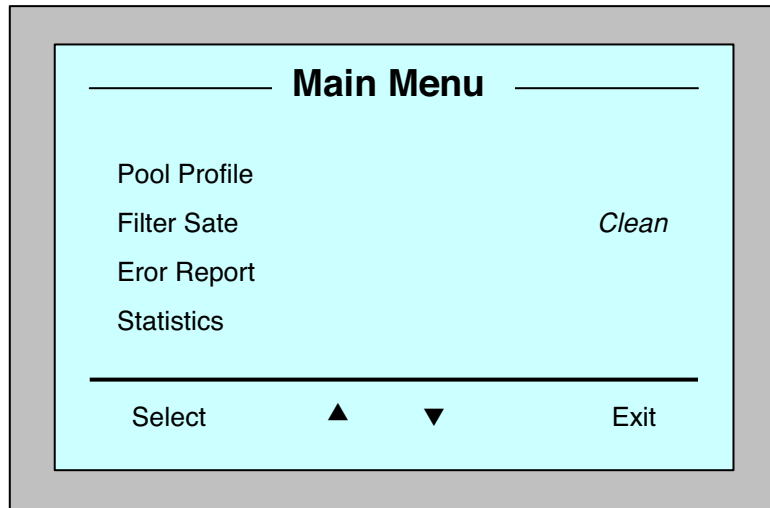

Figure 7: Main Menu
The Dolphin Wave is designed to handle four different swimming pool configurations and when these are set, the pool configurations are stored in the MMI's memory. The robot is preset in the factory with specific default pool settings, which can be reset. Please refer to the first Main Menu screen, Figure 7 and Customized Settings, page 7.
2. Press **Menu** to enter the *Main Menu* (Figure 7).